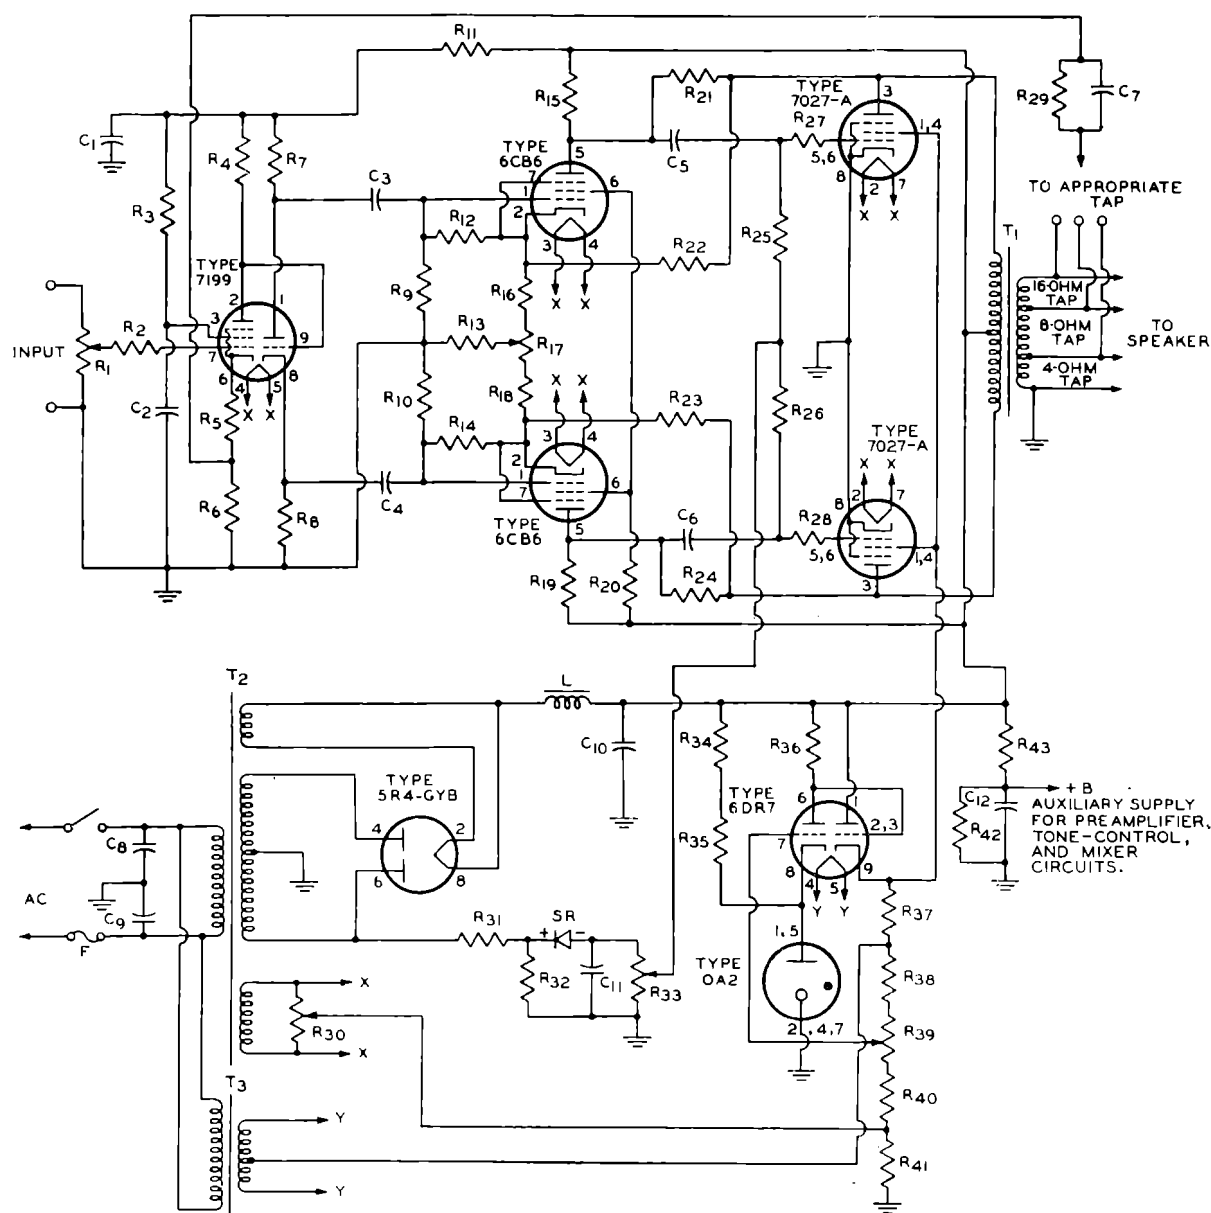

Fig. 3
To avoid possible damage to the valves and components in the output stage of the 50-watt power amplifier shown in Fig. 3, and to minimize
* This voltage will vary with the type of power amplifier used, as follows: 15 watt (Fig. 1), +50 volts; 30 watt (Fig. 2), zero volts; 50 watt (Fig. 3), +65 volts.